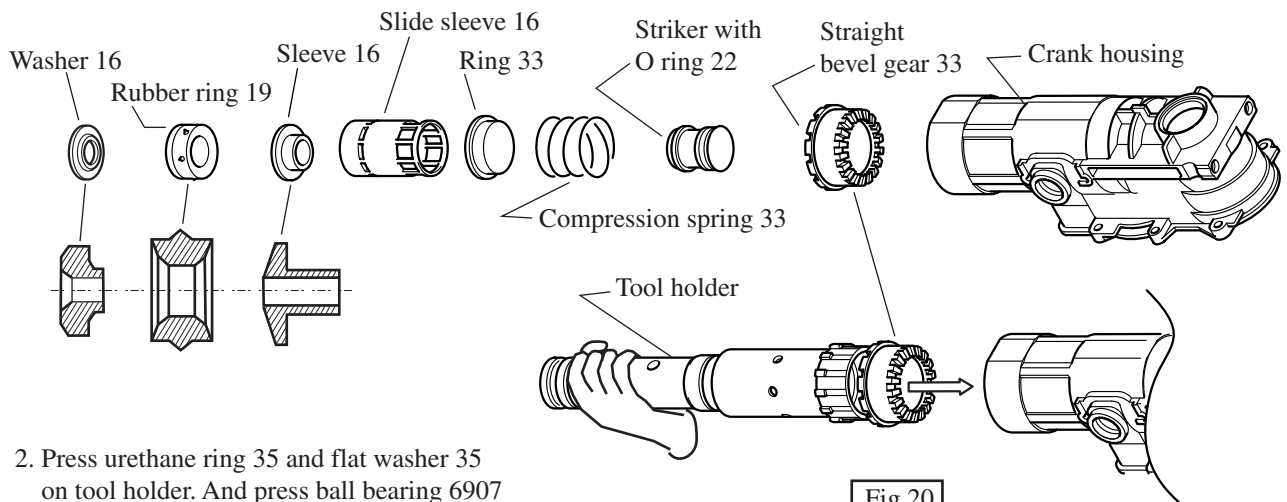

Fig.20
1. Assemble the the spare parts of Fig.20 into the crank housing.
Straight bevel gear 33 can be installed into the crank housing by pushing it with tool holder smoothly. (see Fig.20)